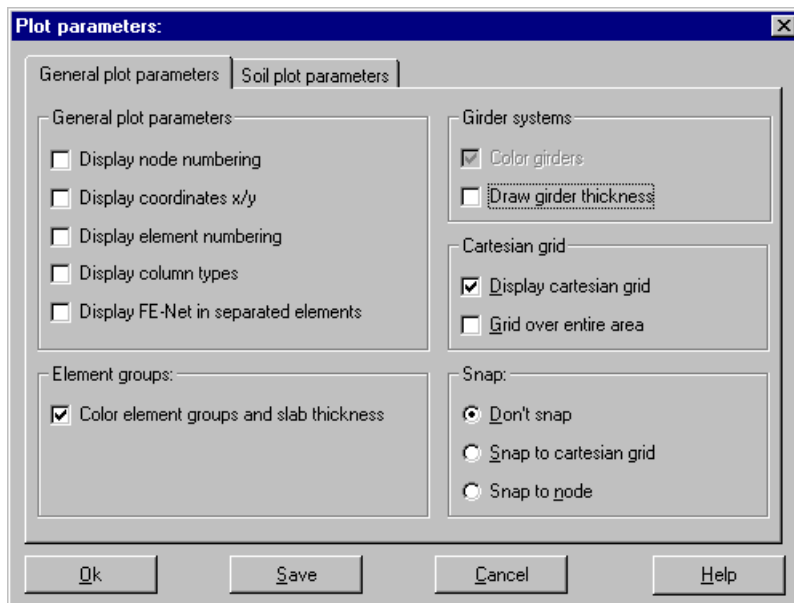

Figure 6-19 "Plot parameters" dialog box
- Choose "Plot parameters" command from "Options" menu. The "Plot parameters" dialog box in Figure 6-19 appears